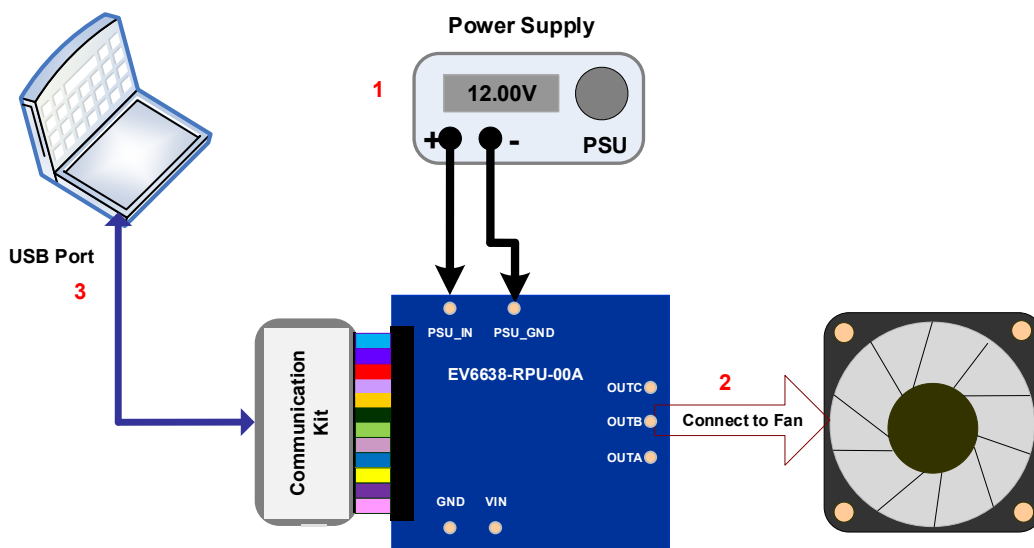

Figure 1: EVB Connection with Communication Kit
2. Connect the power supply output terminals to (see Figure 1):
Figure 1 shows the equipment set-up with the communication kit.